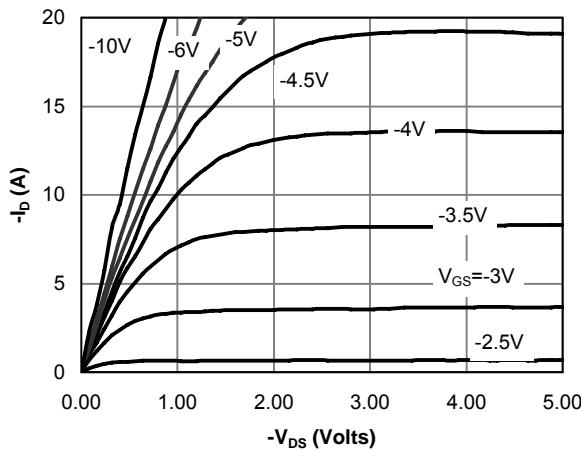

Figure 1: On-Region Characteristics
D. The static characteristics in Figures 1 to 6, 12, 14 are obtained using 80 $\mu\text{s}$  pulses, duty cycle 0.5% max.